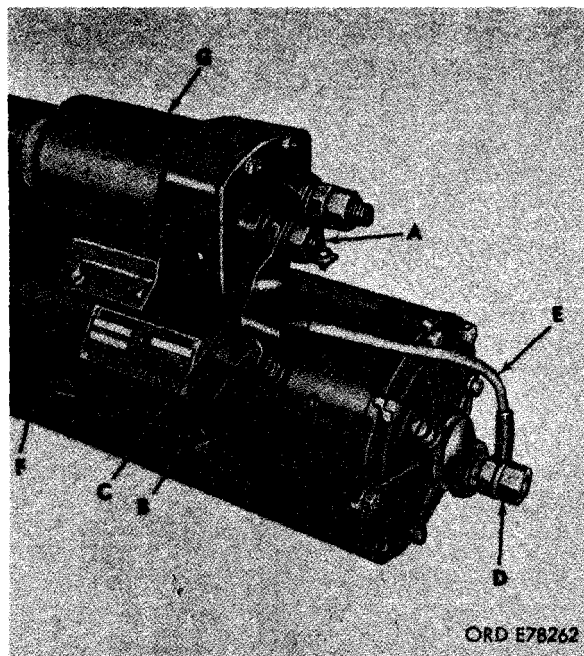

Figure 4-3. Removing or installing solenoid relay assembly.
(3) Refer to figure 4-3 and remove solenoid relay assembly as follows. (A) Remove 1/2-inch hex nut and 1/2-inch lock washer from relay motor terminal. (B) Remove 3/8-inch hex nut and 3/8-inch lock washer and remove connector. (C) Remove No. 10 x 3/8 assembled washer screw and clip. (D) Remove 1/2-inch hex nut and 1/2-inch lock washer from field terminal stud. (E) Remove lead assembly. (F) Remove four 1/4 x 5/16 hex head cap screws and 1/4-inch lock washers. (G) Slide solenoid relay assembly from frame.